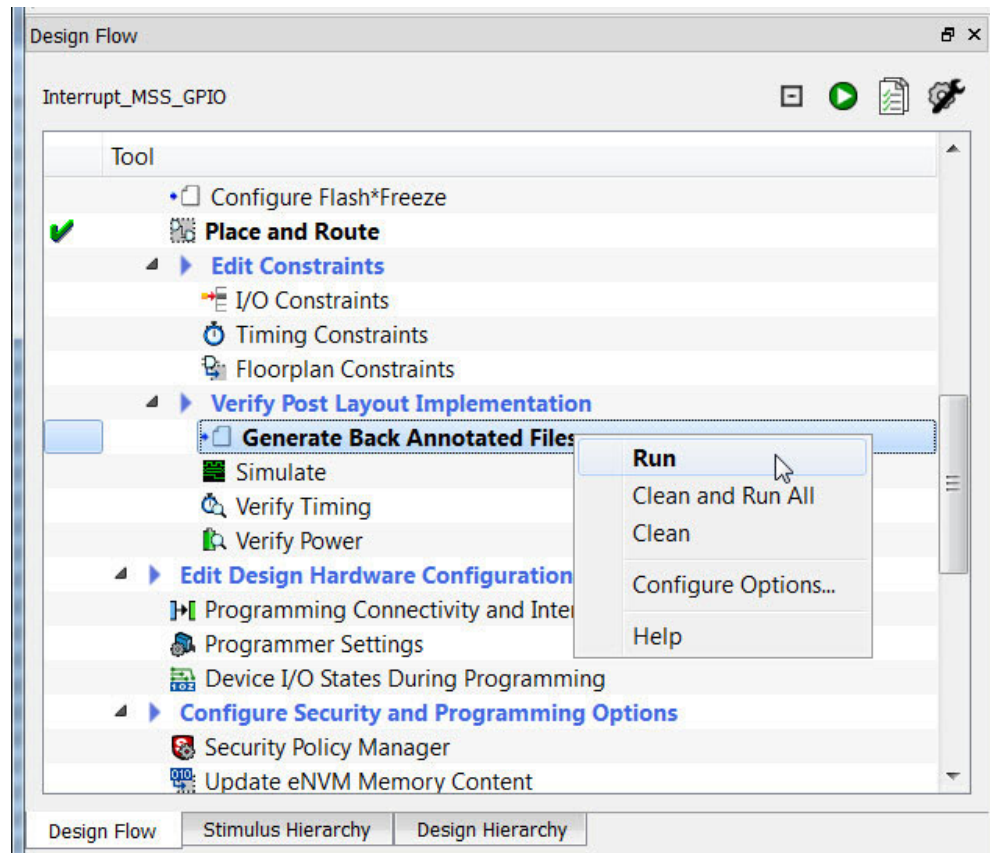

Figure 5-10 • Generated Back Annotated Files
1. From the Design Flow window, right-click **Generate Back Annotate Files** and choose **Run** to extract post-layout timing delay from your design for simulation. (Figure 5-10)